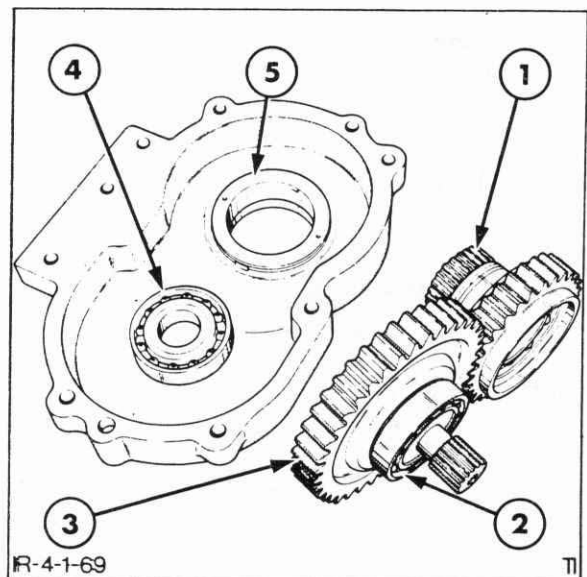

Figure 4-68
2. Strike the front cover plate with a suitable soft faced mallet to release the hydraulic pump driven gear from the housing, Figure 4-68.